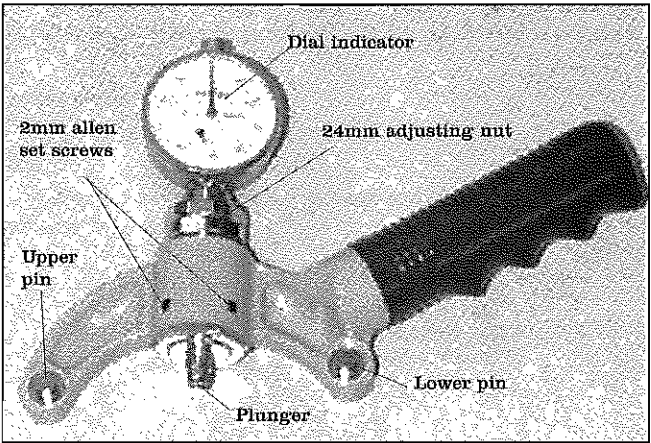

Fig. 28
1. Verify the dial indicator (Fig. 28) reads 0.00 at rest. If not, rotate the dial faceplate until gauge reads correctly. Make this adjustment before every reading to ensure correct measurement.